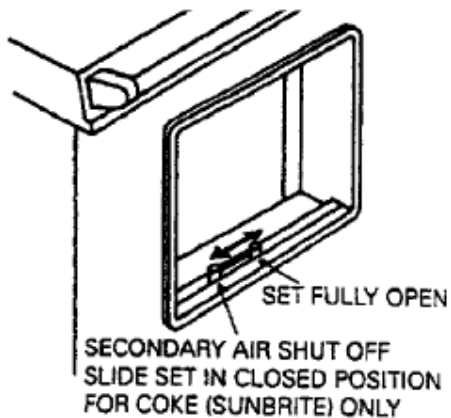

Fig. 6
- k. With fire established, open firebox door and fill firebox with fuel. Check secondary air slide setting (Fig. 6). **Close and lock firebox door.** Push flue chamber damper back to position which has been found to give desired burning rate.
- k. With the fire established open the firebox door and fill firebox with fuel. Check secondary air slide setting (Fig. 6). **Close and lock the firebox door.** Push the flue chamber damper back to position which has been found to give best results. Set spinwheel control to give desired burning rate.